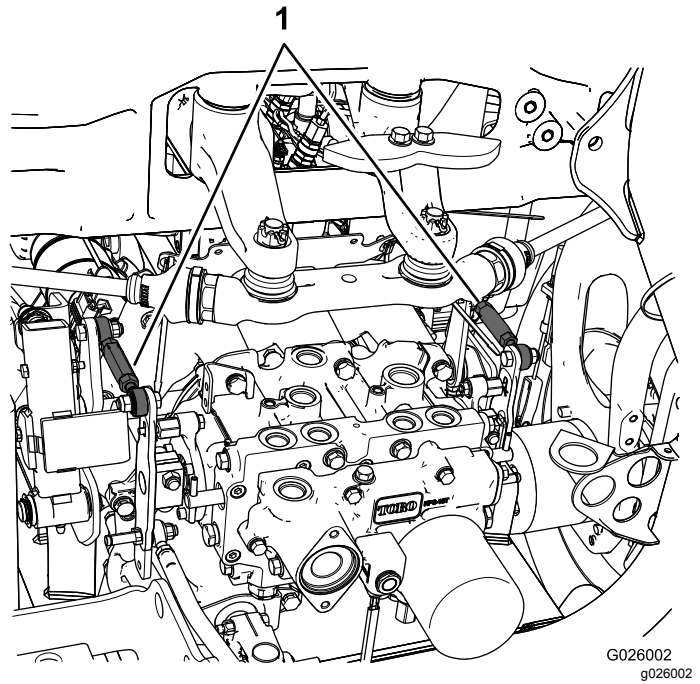

Figure 64
- If the left rear tire is rotating, loosen the jam nuts on the left side transmission control rod (Figure 64).